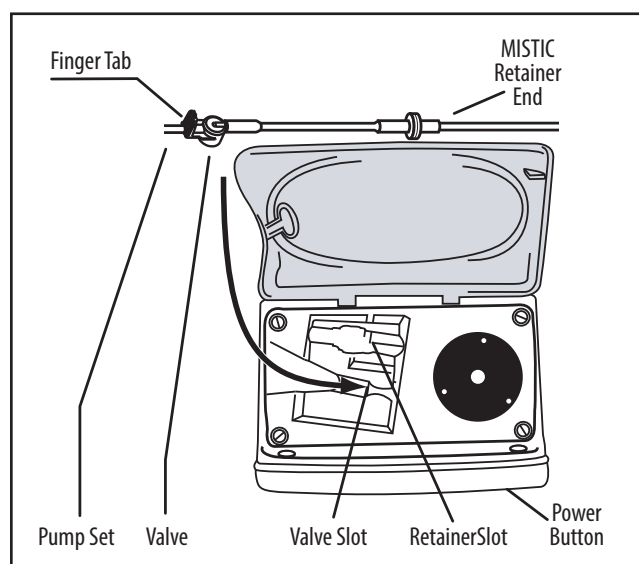

Figure 6A.
2. Load the pump set by holding the finger tab on the valve, then inserting the valve into the valve slot on the left. (Figure 6A)